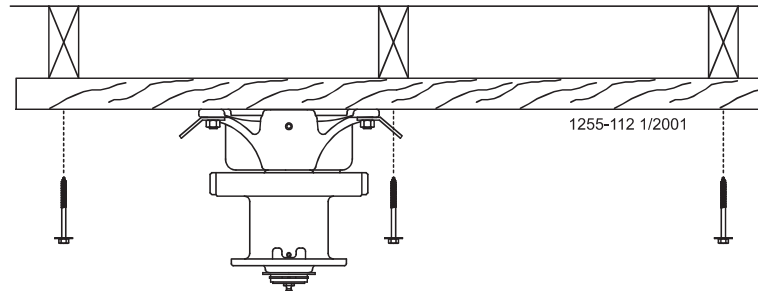

Figure 7. Mounting the Power Lift Winch and Support to the Rafters
2. Attach the Power Lift Winch Support (with the Power Winch secured) to the ceiling at the center of the feeder line. (See **Figure 7.**) The Power Lift Winch Support must be parallel to the feeder line and must span at least 3 rafters in a wood frame house and 2 rafters in a steel frame house.